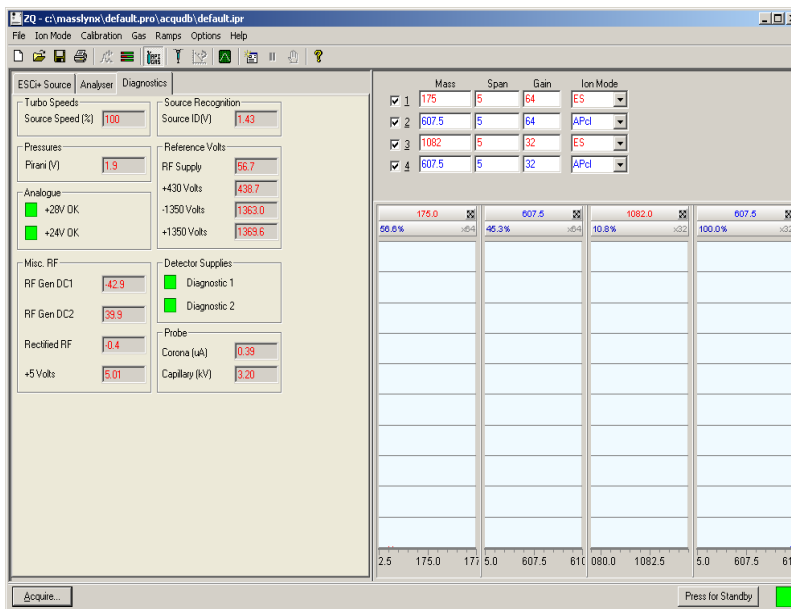

Figure A-5 Tune Window, Diagnostics Page
**Note:** During instrument operation, the Diagnostics page displays voltage-equivalent output in current (APCI) mode and current-equivalent output in voltage (ESI) mode (Figure A-5). Thus the Current and Voltage values appear to interchange, suggesting that current and voltage are simultaneously present. This, however, is not the case. These readings reflect only the power supply output, not voltage output at the capillary and current output at the corona needle.